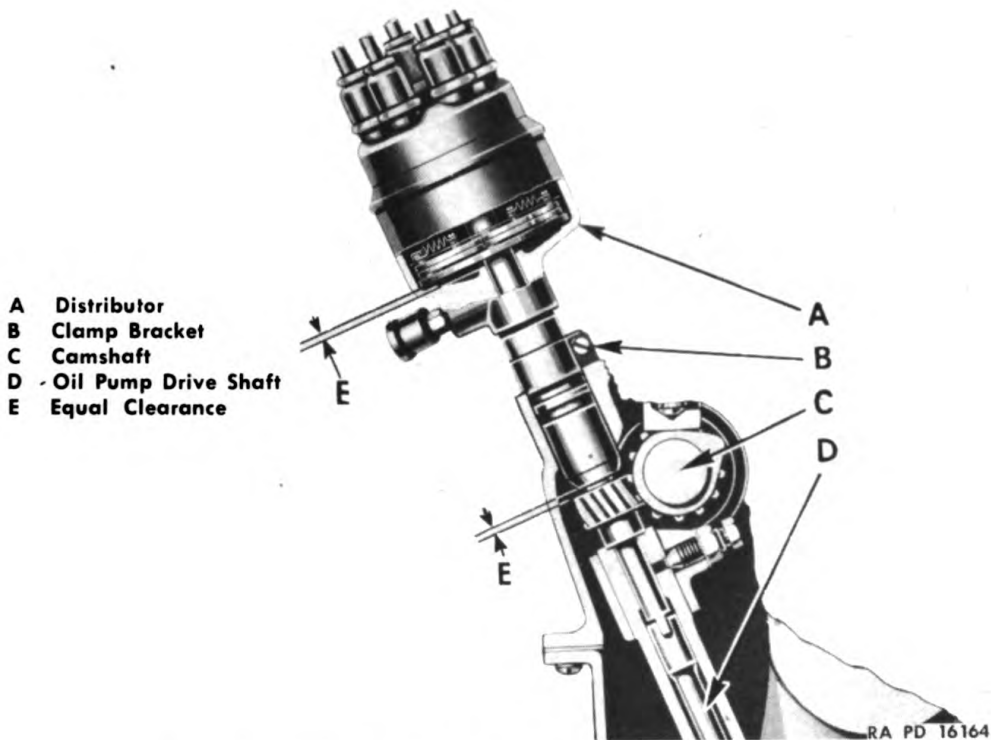

Figure 109—Distributor Installation
b. **Distributor.** The distributor mounted on right-hand side of engine is equipped with centrifugal type of spark control. The unit is driven from camshaft by spiral cut gears. Lower end of distributor shaft is tongued and engages slot on upper end of oil pump shaft to drive oil pump. (See Fig. 109.)